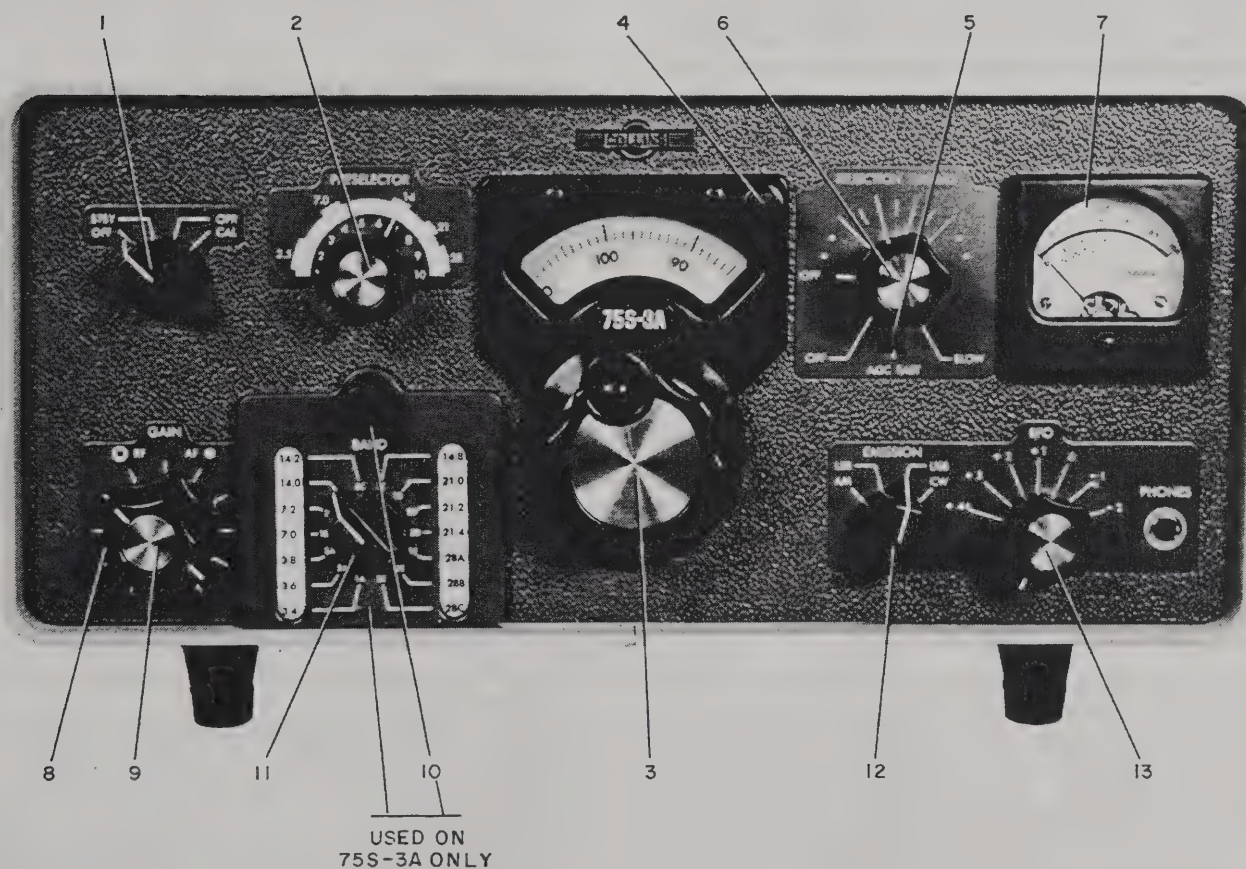

Figure 2-1. Operating Controls
- a. After making external connections, set controls as shown in figure 2-1.
- b. Set BAND switch (11) to desired frequency range. If receiver is 75S-3A, set crystal board selector (10) so desired set of bands appears in window.
- c. Set dial to 0, 100, or 200 with tuning knob (3).
- d. Adjust PRESELECTOR (2) for maximum signal or noise output.
- f. Adjust zero set knob (4) until dial is calibrated.
- a. Set controls as shown in figure 2-1, except set function switch (1) to OPR, and the BFO knob fully counterclockwise until a click is heard.
- b. Set EMISSION switch (12) to desired sideband.
- c. Adjust PRESELECTOR (2) for maximum signal or noise output.
- d. Tune in signal and adjust AF GAIN (9) for desired audio output level.